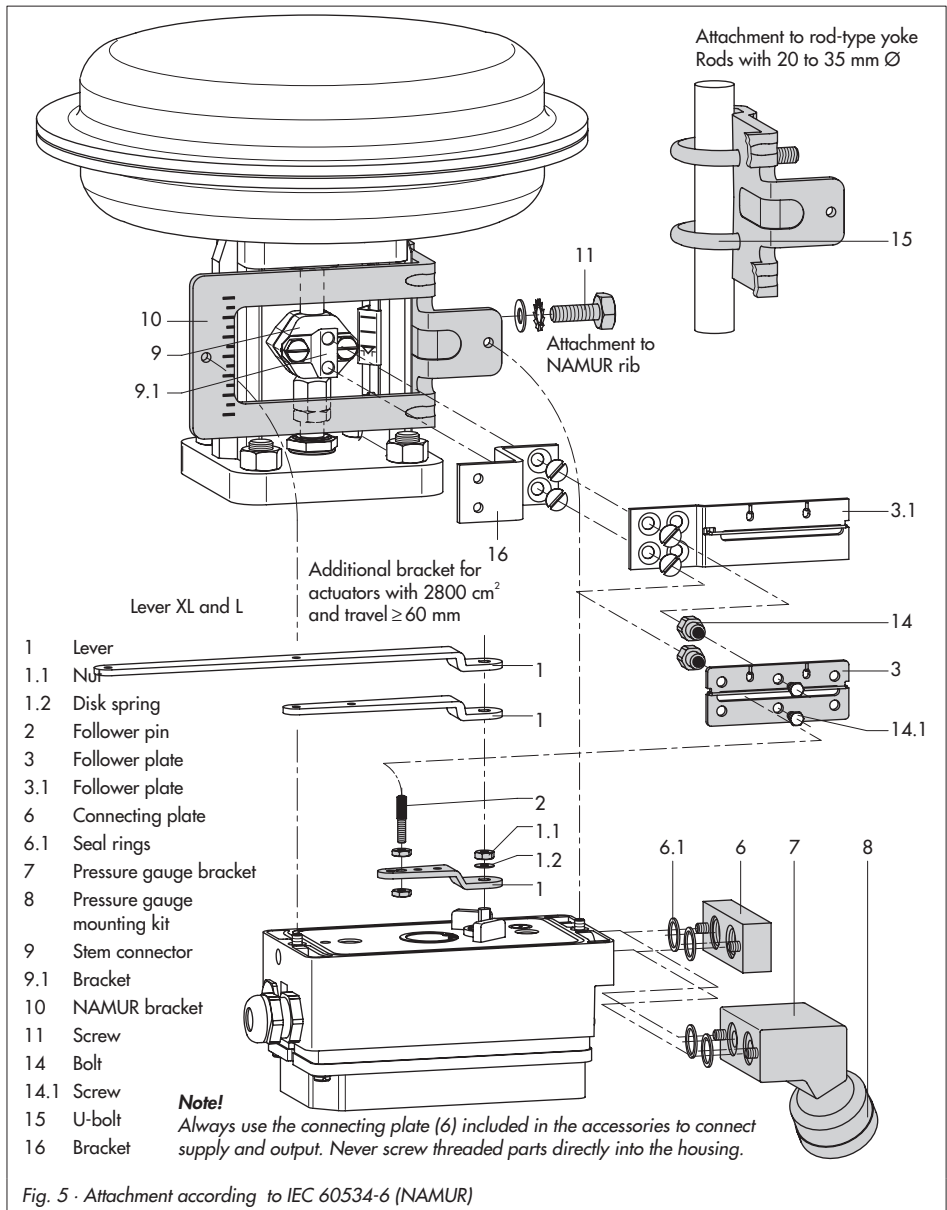

Fig. 5 · Attachment according to IEC 60534-6 (NAMUR)
Table 3 Attachment to NAMUR ribs or control valves with rod-type yokes (20 to 35 mm rod diameter) according to IEC 60534-6, see Fig. 5
For the pneumatic connection either a connecting plate (6) or a pressure gauge bracket (7) must be fixed to the housing, depending on the accessory chosen. Make sure the seal rings (6.1) are correctly inserted (see Fig. 5, bottom right).